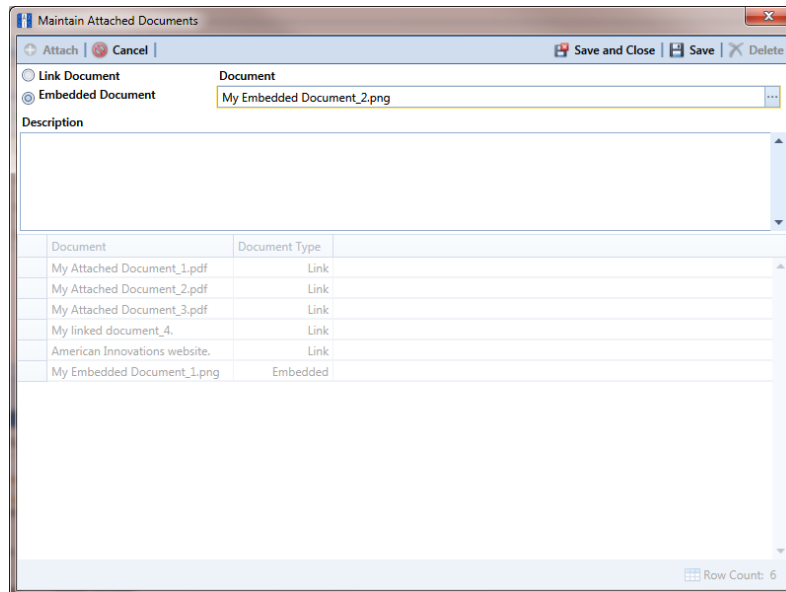

Figure 4-28. Embedded Document
- 9 If you selected *Embedded Document* in step 6, complete the following steps (Figure 4-28):